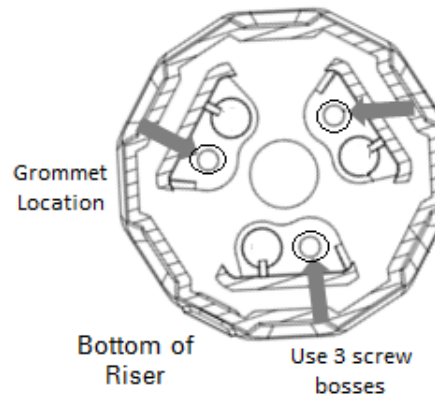

Figure 6
3. Mark hole locations. Use the gasket as a hole template shown in Figure 4. Different mounting holes are used in the riser for Bottom-up (Fig 5) or Top-down (Fig 6) mounting. Place the gasket on the desired vehicle mounting location. Mark the mounting hole locations. Mark the center hole if using a hidden wiring harness.